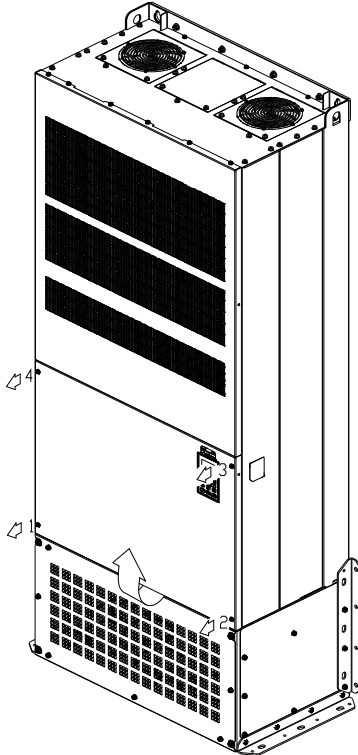

Figure 1
1. Loosen the screw 1-4 and remove the top cover 2. (figure 1) Screw torque: 14-16 kg-cm / [12.2-13.9 lb-in.] / [1.4-1.6 Nm]